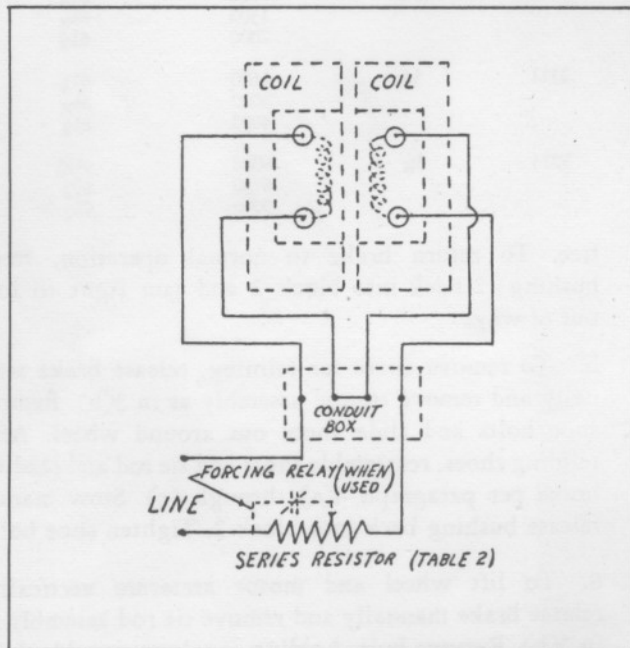

Fig. 3. Shunt Coil Connection
b. SHUNT COIL OPERATION.—Shunt brakes are usually supplied with low voltage coils for speedy action unless otherwise specified, and it is necessary to have a resistance in series with the coil. Coil voltage and value of series resistance is given in Table 2. Coils are connected per Fig. 3 with full current flowing through both coils. In case of coil failure, brake may be operated on one coil for shorter time by shorting out defective coil.
gasket compound. When changing coils, transfer travel indicator to new magnet. Bolt new magnet in place and bring leads into conduit box through rubber grommets for shunt coils or to terminal board. Make connection to power leads per Fig. 3 or 4 depending on type of coils being used, and tape leads.
- Coils may be improperly connected with resultant bucking instead of cumulative magnetic flux. Check wiring per Fig. 3 or 4.